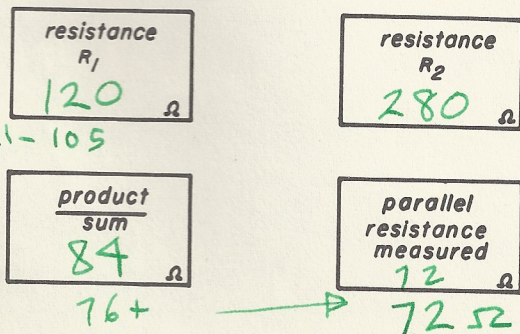

Fig. 8-16
Step 2. Record, in the first box of Fig. 8-16, the resistance of R_1 , as you measured it in Experiment 8-3.
Step 3. Record, in the second box of Fig. 8-16, the resistance of R_2 as you measured it in Experiment 8-3.
Step 4. Calculate the value of R_1 and R_2 in parallel in the way described above. Record this value in the third box of Fig. 8-16.
Step 5. Measure the value of the resistance of R_1 and R_2 in parallel by placing one prod on one end of R_1 and the other prod on the other end of R_1 . Naturally, you could also measure this resistance by placing one prod on one end of R_2 and the other prod on the other end of R_2 . In either case, you would get the same answer. Record this measurement in the fourth box of Fig. 8-16. The value of the resistance in the third box should equal that in the fourth box. If there is a great difference between the two values, check the figuring you did to get the calculated value.